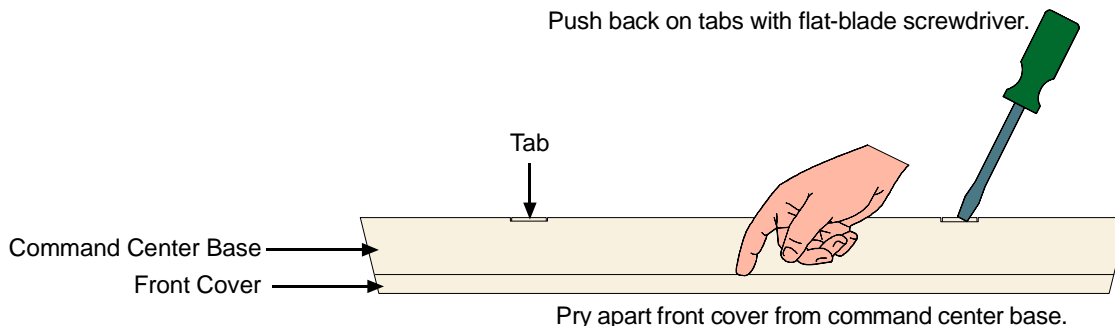

Figure 1: Removing the Front Cover
4. **Remove the Front Cover:** Remove the front cover from the enclosure base. Use a small flat-bladed screwdriver to gently push the two bottom cover tabs back. As you push back the tabs, lift the front cover away from the base to remove the cover. See Figure 1.